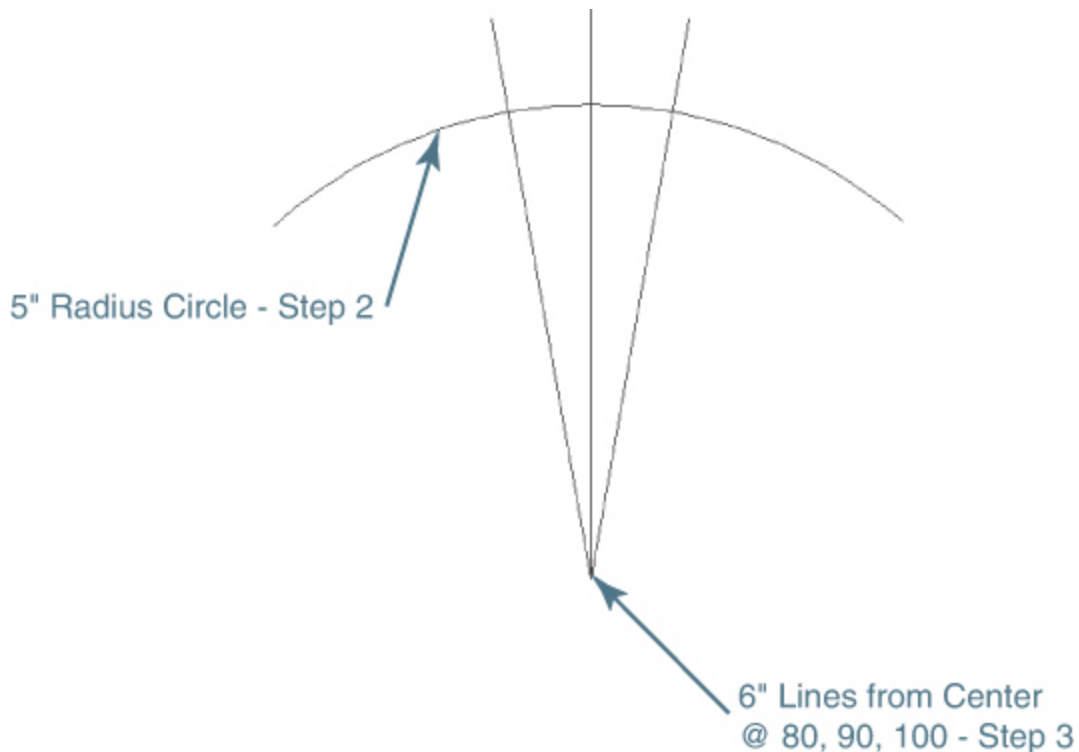

Figure 8-18
- 2 Draw a circle with a radius of 5, as shown in Figure 8-18.
- 3 Draw three lines that are 6 units long, starting at the center of the circle at an angle of 80°, 90°, and 100°, respectively, as shown in Figure 8-18.